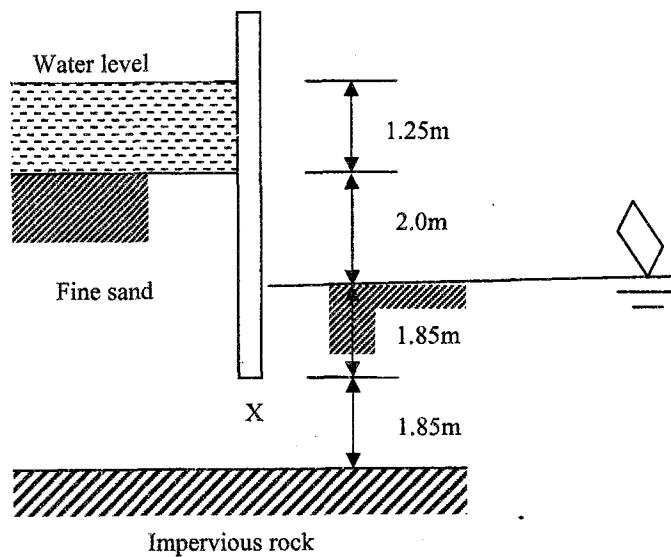

Figure 1
- [b] Make a sketch of a flow net of seepage under the sheet pile wall shown in Figure 1 and estimate the quantity of seepage in  $\text{m}^3/\text{min}/\text{m}$  run of piling if the permeability of the sand is  $18 \times 10^{-3} \text{ mm/s}$ . If the unit weight of the sand is  $18.5 \text{ kN/m}^3$  is there any likelihood of piping anywhere in front of the piles?
- [c] Determine the value of pore water pressure at a point near the toe of the wall, which is indicated as X in Figure 1?